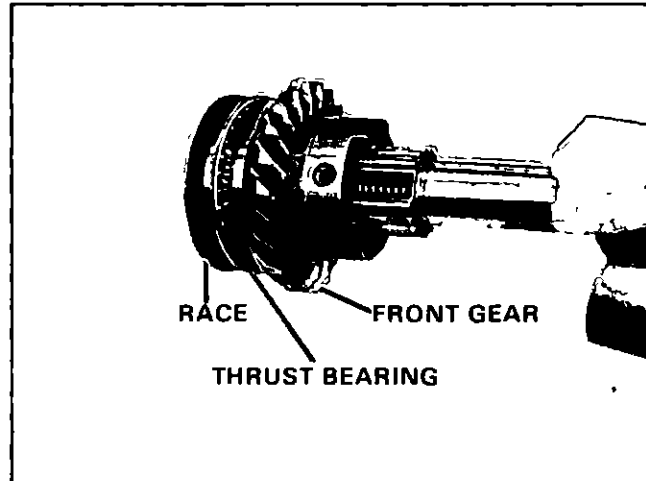

Figure 35. Installing Front Gear, Thrust Bearing, Race.
- A Install thrust bearing, then race on front bevel gear. Figure 35